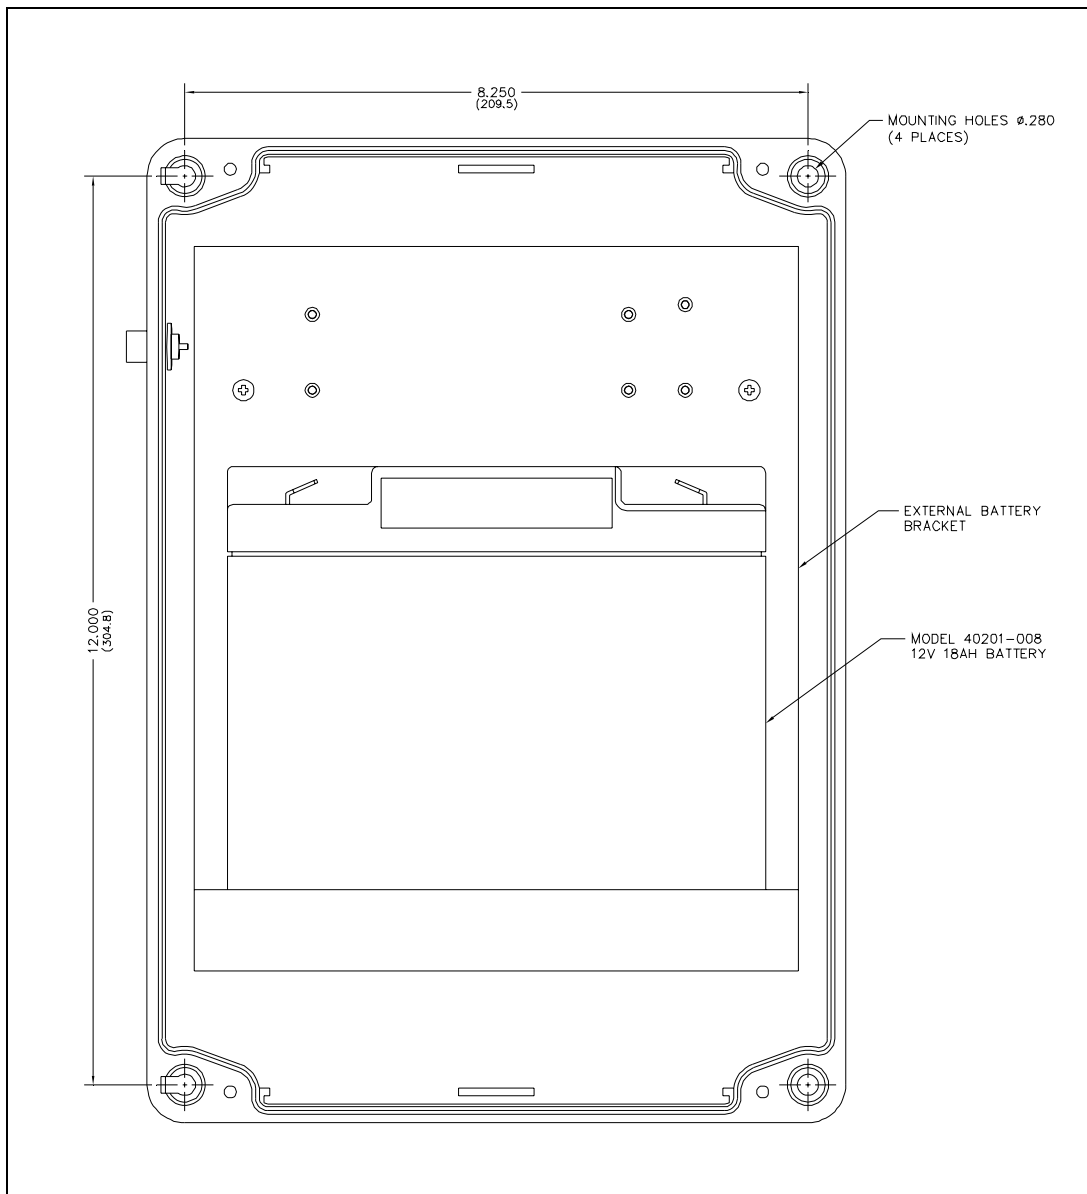

Figure 1. Rear half of the enclosure
2. Secure the rear section of the external battery enclosure to the desired surface with screws or appropriate customer-provided fasteners. Each enclosure mounting hole is 0.280 inch in diameter allowing the use of 1/4-inch diameter screws. Refer to Figure 1. The enclosure can also be mounted to a Model 230 Pole Mounting Kit for pole or surface mounting. Four mounting screws are provided with the pole mounting kit.